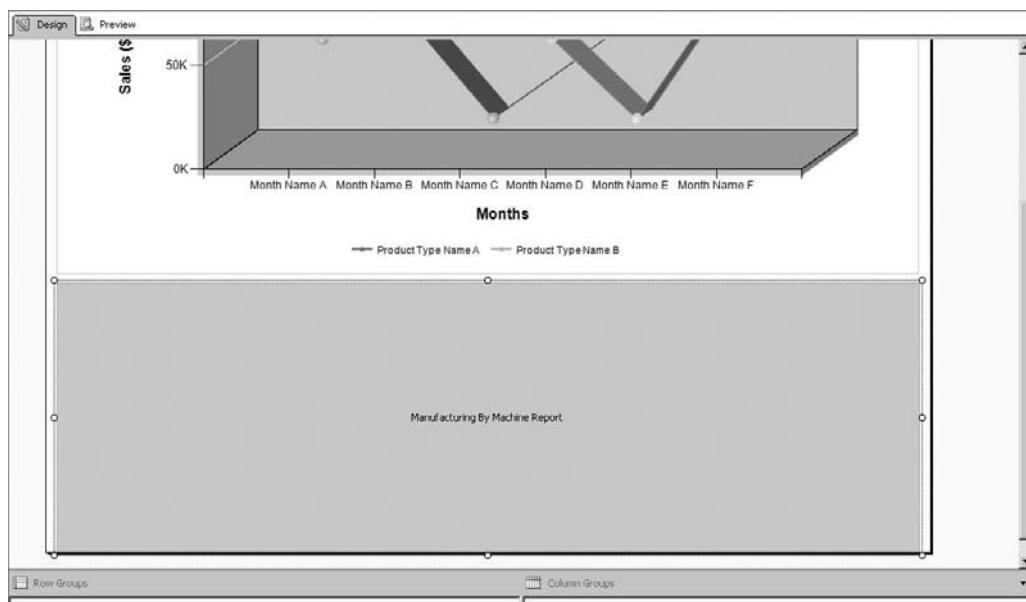

Figure 16-59 The Inventory Levels By Month Report layout with a subreport
92. The subreport report item appears in the report layout, as shown in Figure 16-59.